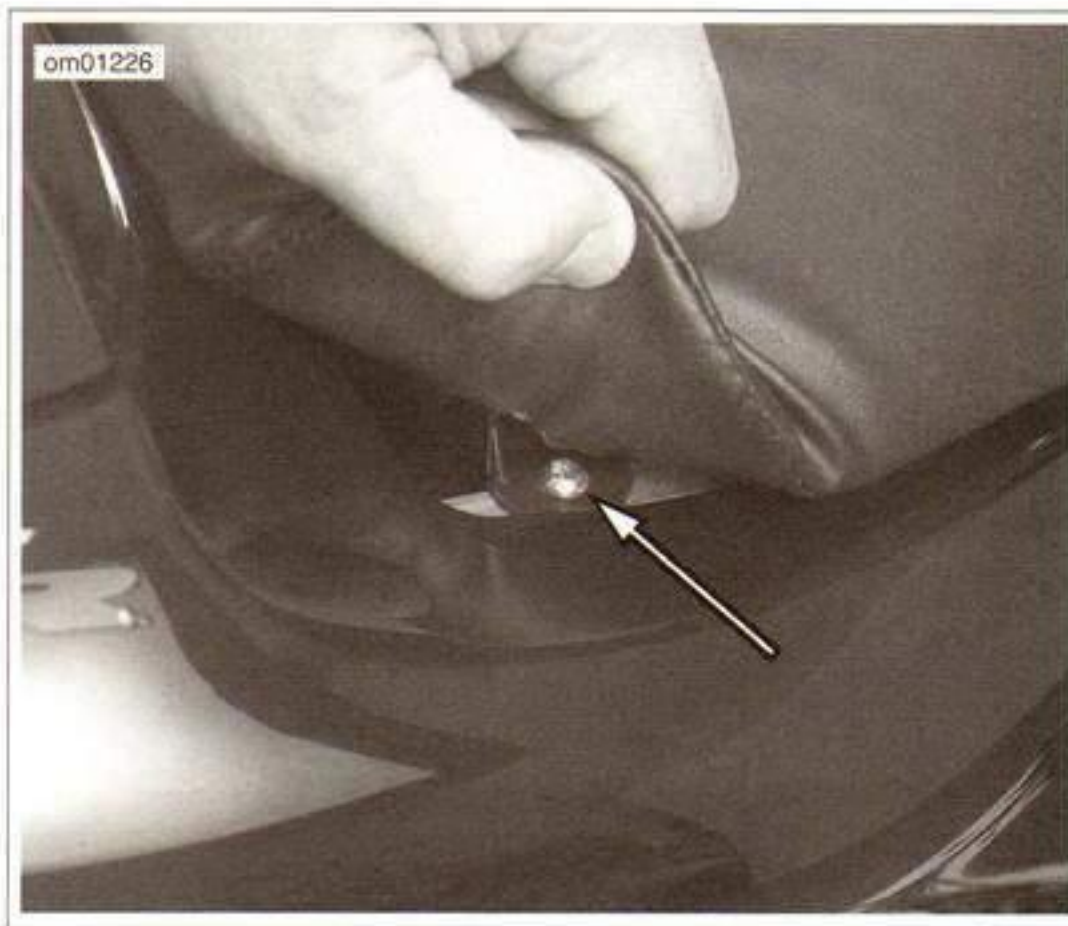

Figure 2-158. Rider Seat Screws: 1125 Models
1. See Figure 2-158. Turn the rear corners of the seat and remove the two fasteners.